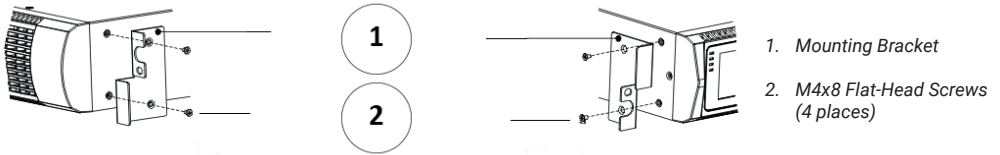

FIG 5: Installing the Mounting Brackets
9. Align the mounting brackets with the screw holes on each side of the UPS and fix with the supplied M4x8 flat-head screws (see FIG. 5)